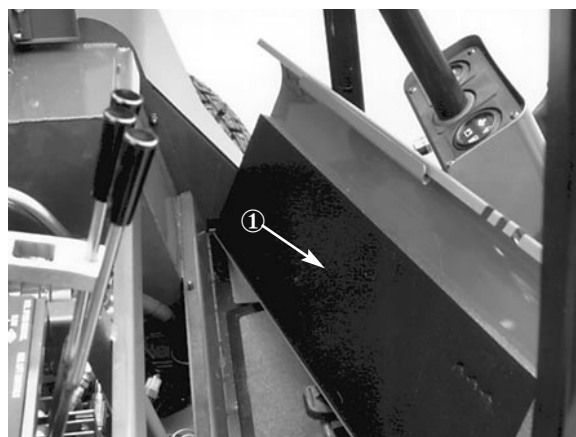

Figure 17
- Lift and remove the front panel (Fig 17)